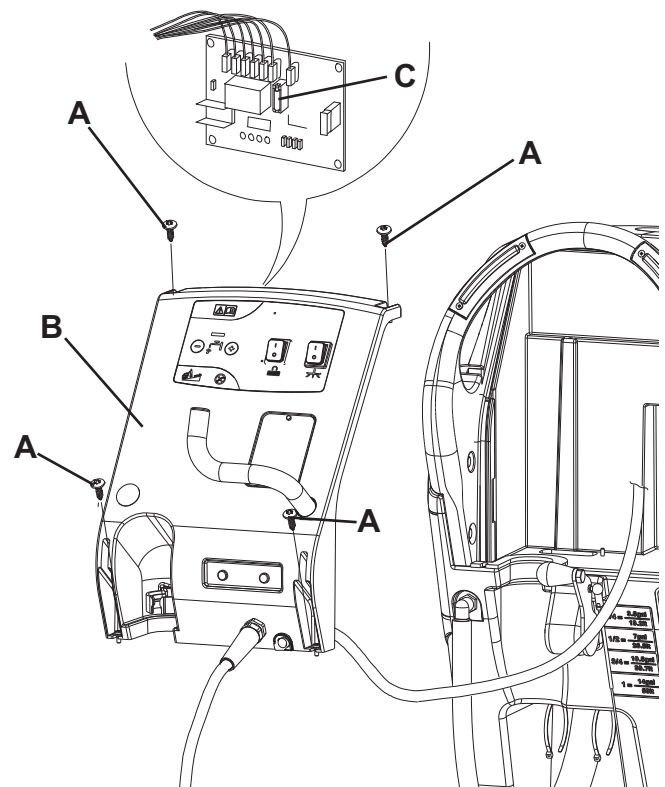

Figure 6
1. Disconnect the power supply cable (3) from the electrical mains but do not place it on the holder (4).
2. Move aside the recovery water drain hose (12).
3. Remove the power supply cable (3) from the holder (4).
4. Remove the screws (A, Fig. 6) and carefully move the panel (B).
5. Check/replace the following fuse: (C) Electronic board fuse F1: (1 A)